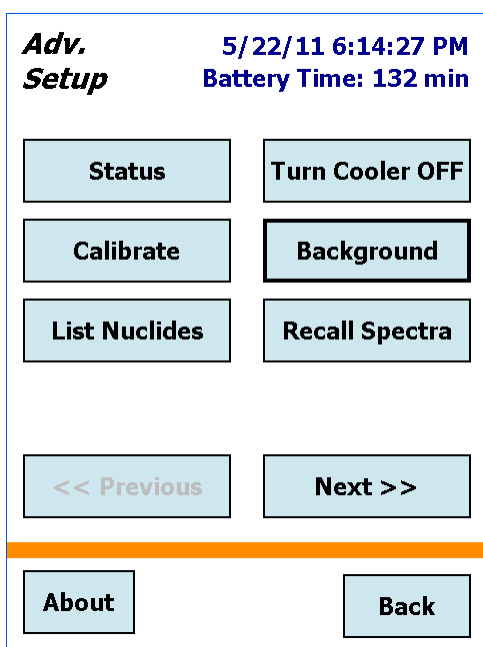
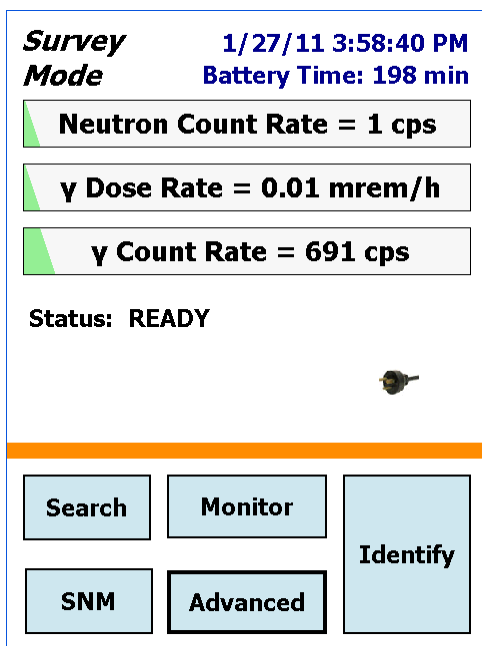

Figure 17. On the Advanced Menu, Tap the Calibrate Button.
Figure 23. The Survey Mode Screen.
- **Instrument Status Area** — The center of the Survey Mode screen provides brief indicator's of the unit's readiness for data acquisition. The Status is either **READY** (Fig. 23) or **Detector is warm**. In addition, warnings such as the high gamma dose rate message are posted in this part of the screen.
- To return to the preceding dialog, tap **Back**. For example, tapping **Back** from the Advanced Setup dialog (Fig. 17 on page 24) returns you to the Survey Mode screen (Fig. 23).
- On the Survey Mode screen, tap on **Advanced** (see Fig. 17), then **Calibrate**.
In Survey Mode (Fig. 23), the Detective-EX behaves as a passive monitor, showing the current gamma count and dose rate; neutron count rate (for units so equipped); instrument status; detector dead time, available disk storage space and battery charge; time and date; and GPS coordinates.
- To end this search and return to the Survey Mode (Fig. 23), tap **Back**. The current search data will be retained until the next identification or search. (You can display the most recently acquired search or identification spectrum from the Survey Mode screen.)